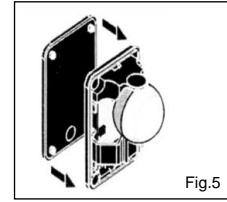

Fig.5
- Mount the gasket and cell (fig. 5)